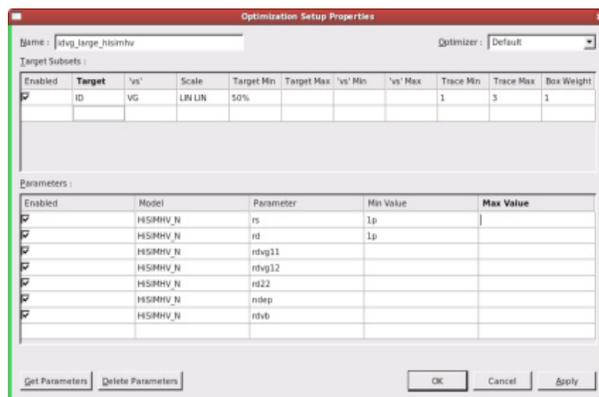

Figure-3 Utmost IV Optimization Setup Property for idvg\_large\_hisimhv.
**Optimization Setup Property: idvg\_large\_hisimhv (Figure-3)**